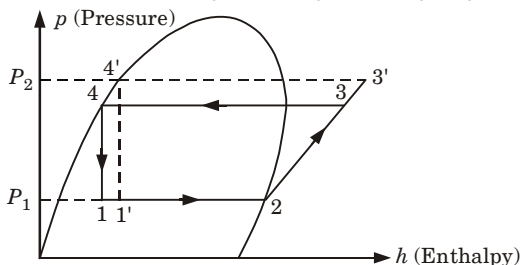

Fig. 5.12.2. Effect of increase in delivery pressure.
1. The effect of increase in delivery pressure in $p-h$ diagram is shown in Fig. 5.12.2.